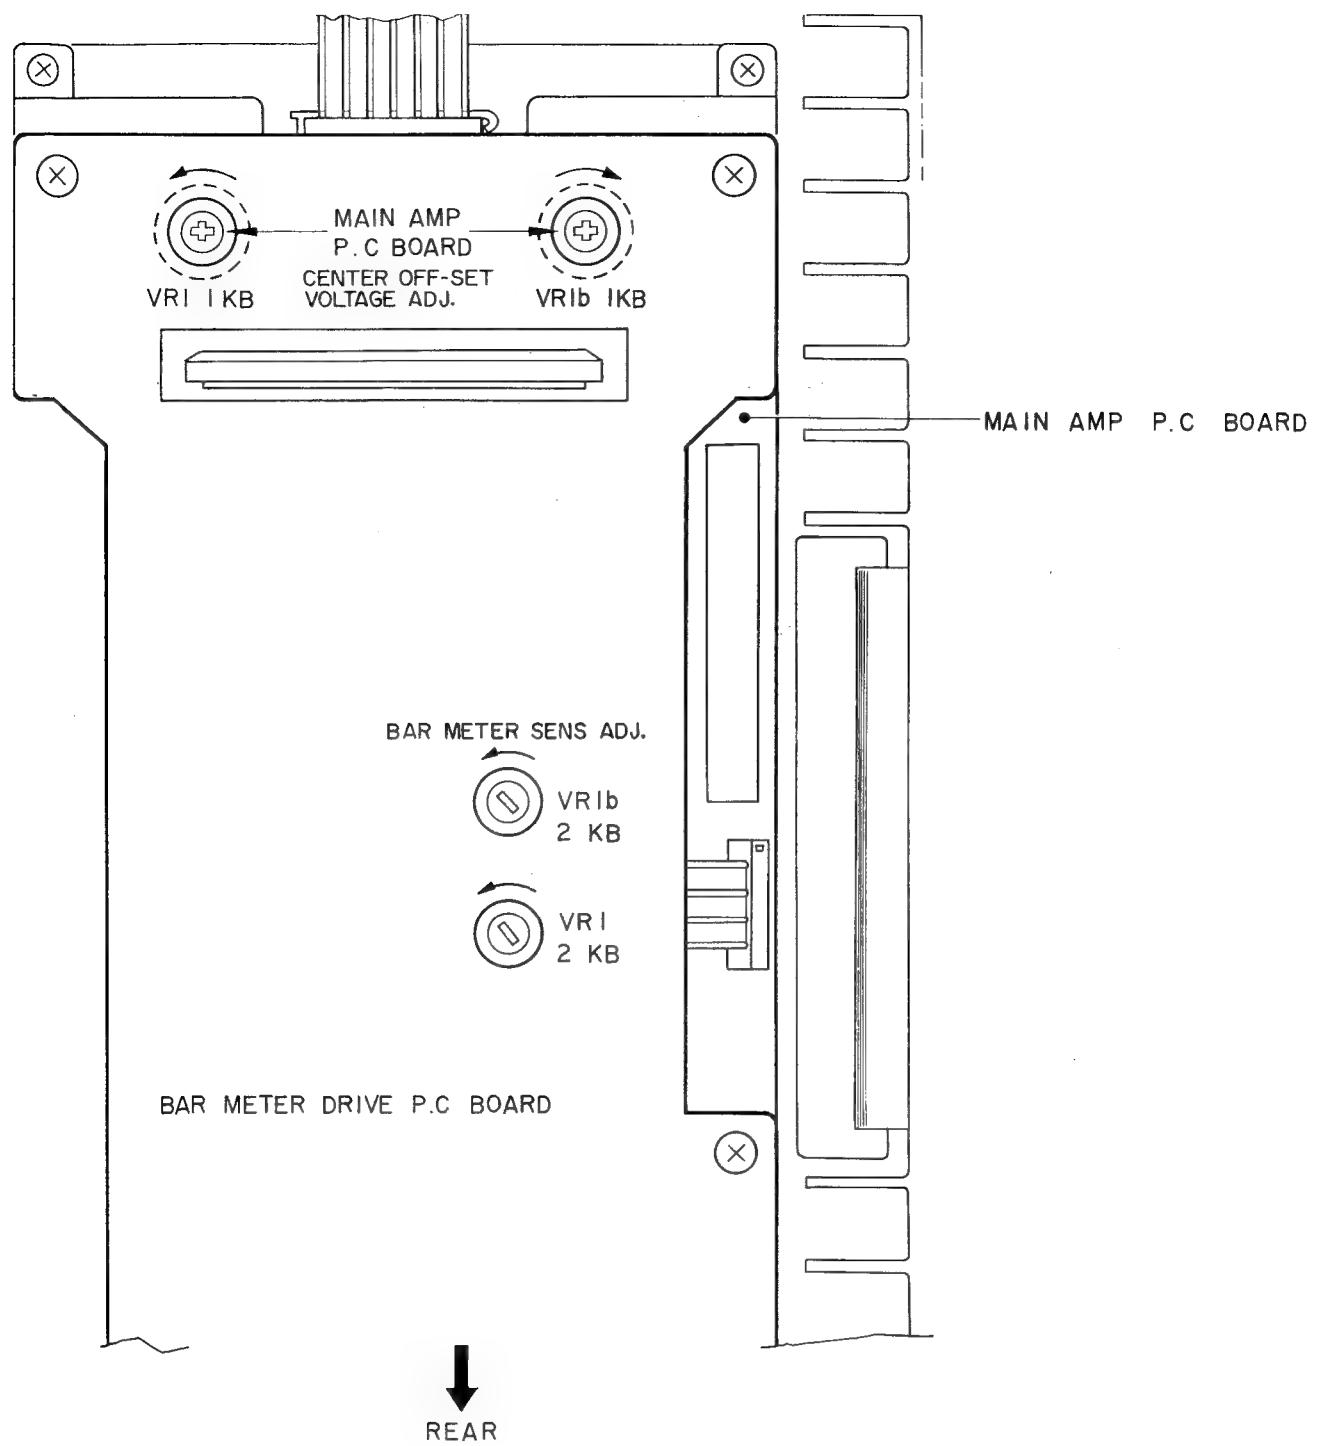

Fig. 13 Adjustment Points
1. CENTER OFF-SET VOLTAGE ADJUSTMENT (Refer to Figs. 13, 14)
2. BAR METER SENSITIVITY ADJUSTMENT (Refer to Figs. 13, 15)